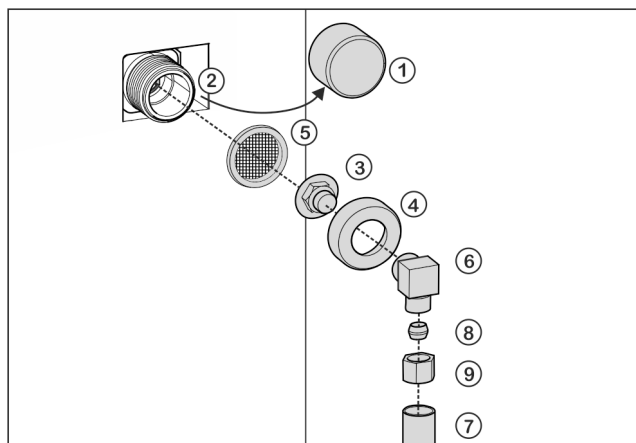

Fig. 25
- ▶ Remove cap Fig. 25 (1) from solenoid valve Fig. 25 (2).
- ▶ Insert coupler Fig. 25 (3) into union nut Fig. 25 (4).
- ▶ Insert the filter Fig. 25 (5) with the recess pointing down towards the coupler Fig. 25 (3).
- ▶ Screw the union nut Fig. 25 (4) by hand onto the thread of the solenoid valve Fig. 25 (2) until it is firmly in place.
- ▶ Screw on angle piece Fig. 25 (6).
- ▶ Connect the water pipe Fig. 25 (7) (e. g. 1/4" OD copper pipe) with the clamp ring Fig. 25 (8) and nut Fig. 25 (9) to the elbow connector Fig. 25 (6).
- ▶ If necessary: Fasten the water pipe Fig. 25 (7) to the housing with the guide clip.
- ▶ Put angle piece Fig. 25 (6) to one side.
- ▶ Connect the water pipe Fig. 25 (7) (e. g. 1/4" OD copper pipe) with the clamp ring Fig. 25 (8) and nut Fig. 25 (9) to the coupler Fig. 25 (3).